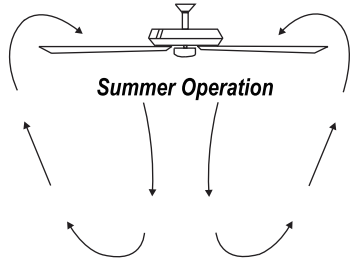

Figure 18
**Warm Weather (Forward) -** A downward airflow creates a cooling effect as shown in Fig. 18. This allows you to set your air conditioner on a warmer setting without affecting your comfort.